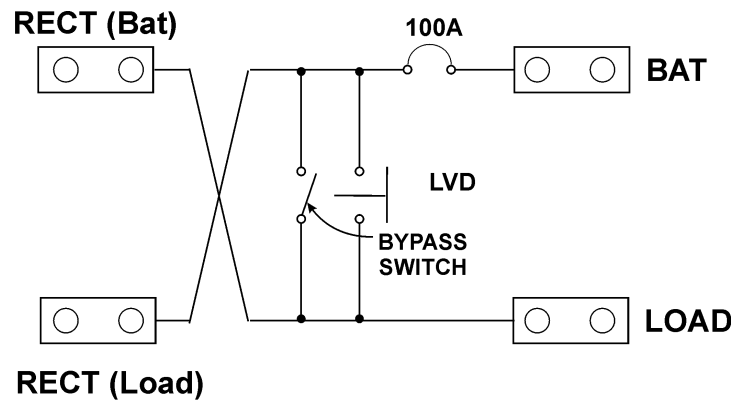

Figure 3. Simplified Diagram of LVD1U
- 9.1** Figure 3 shows a simplified diagram of the LVD1U circuit for both the A or B side.